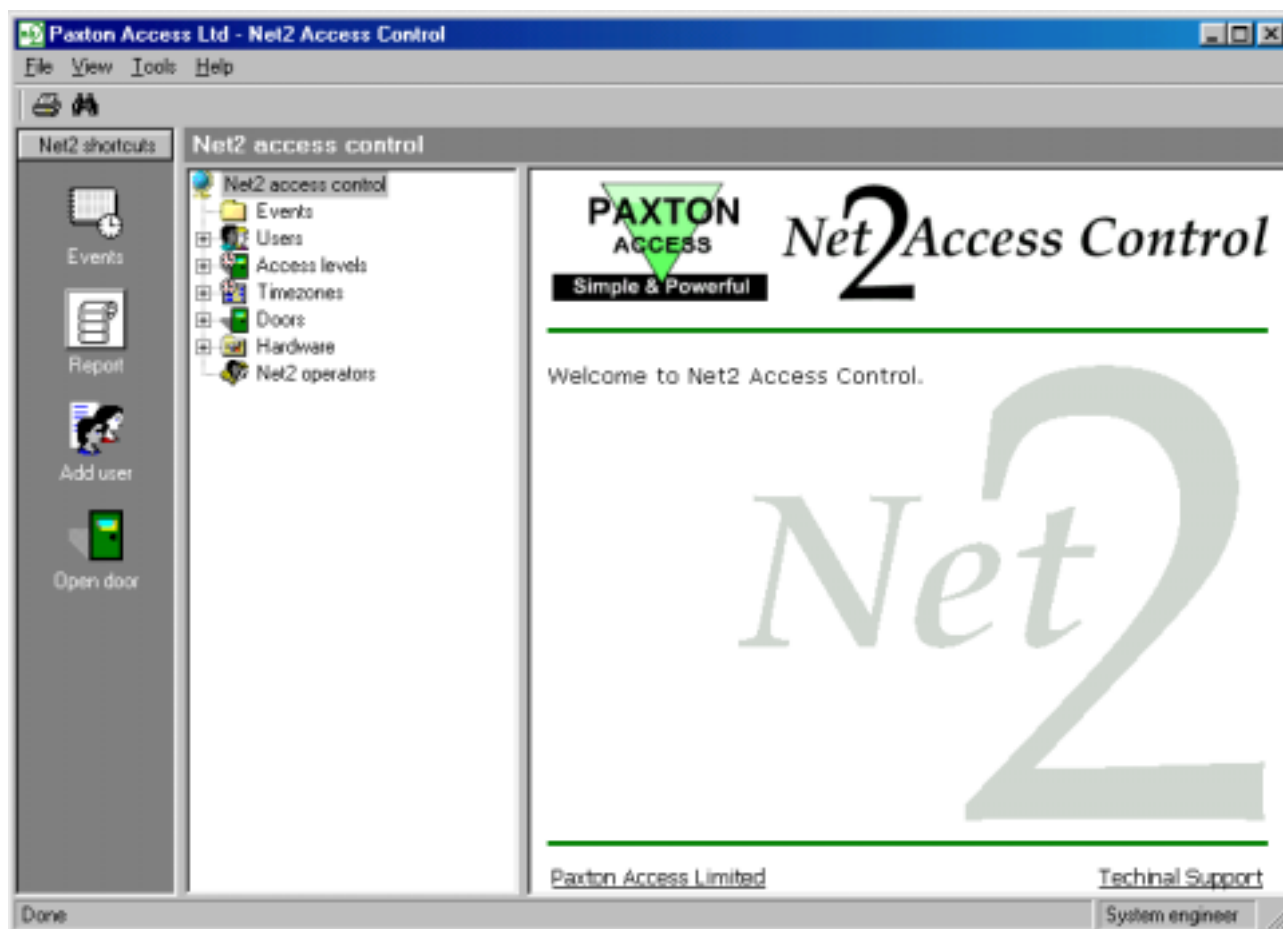

Figure 4.17
1. Select **Report** from the shortcut bar, see figure 4.17.